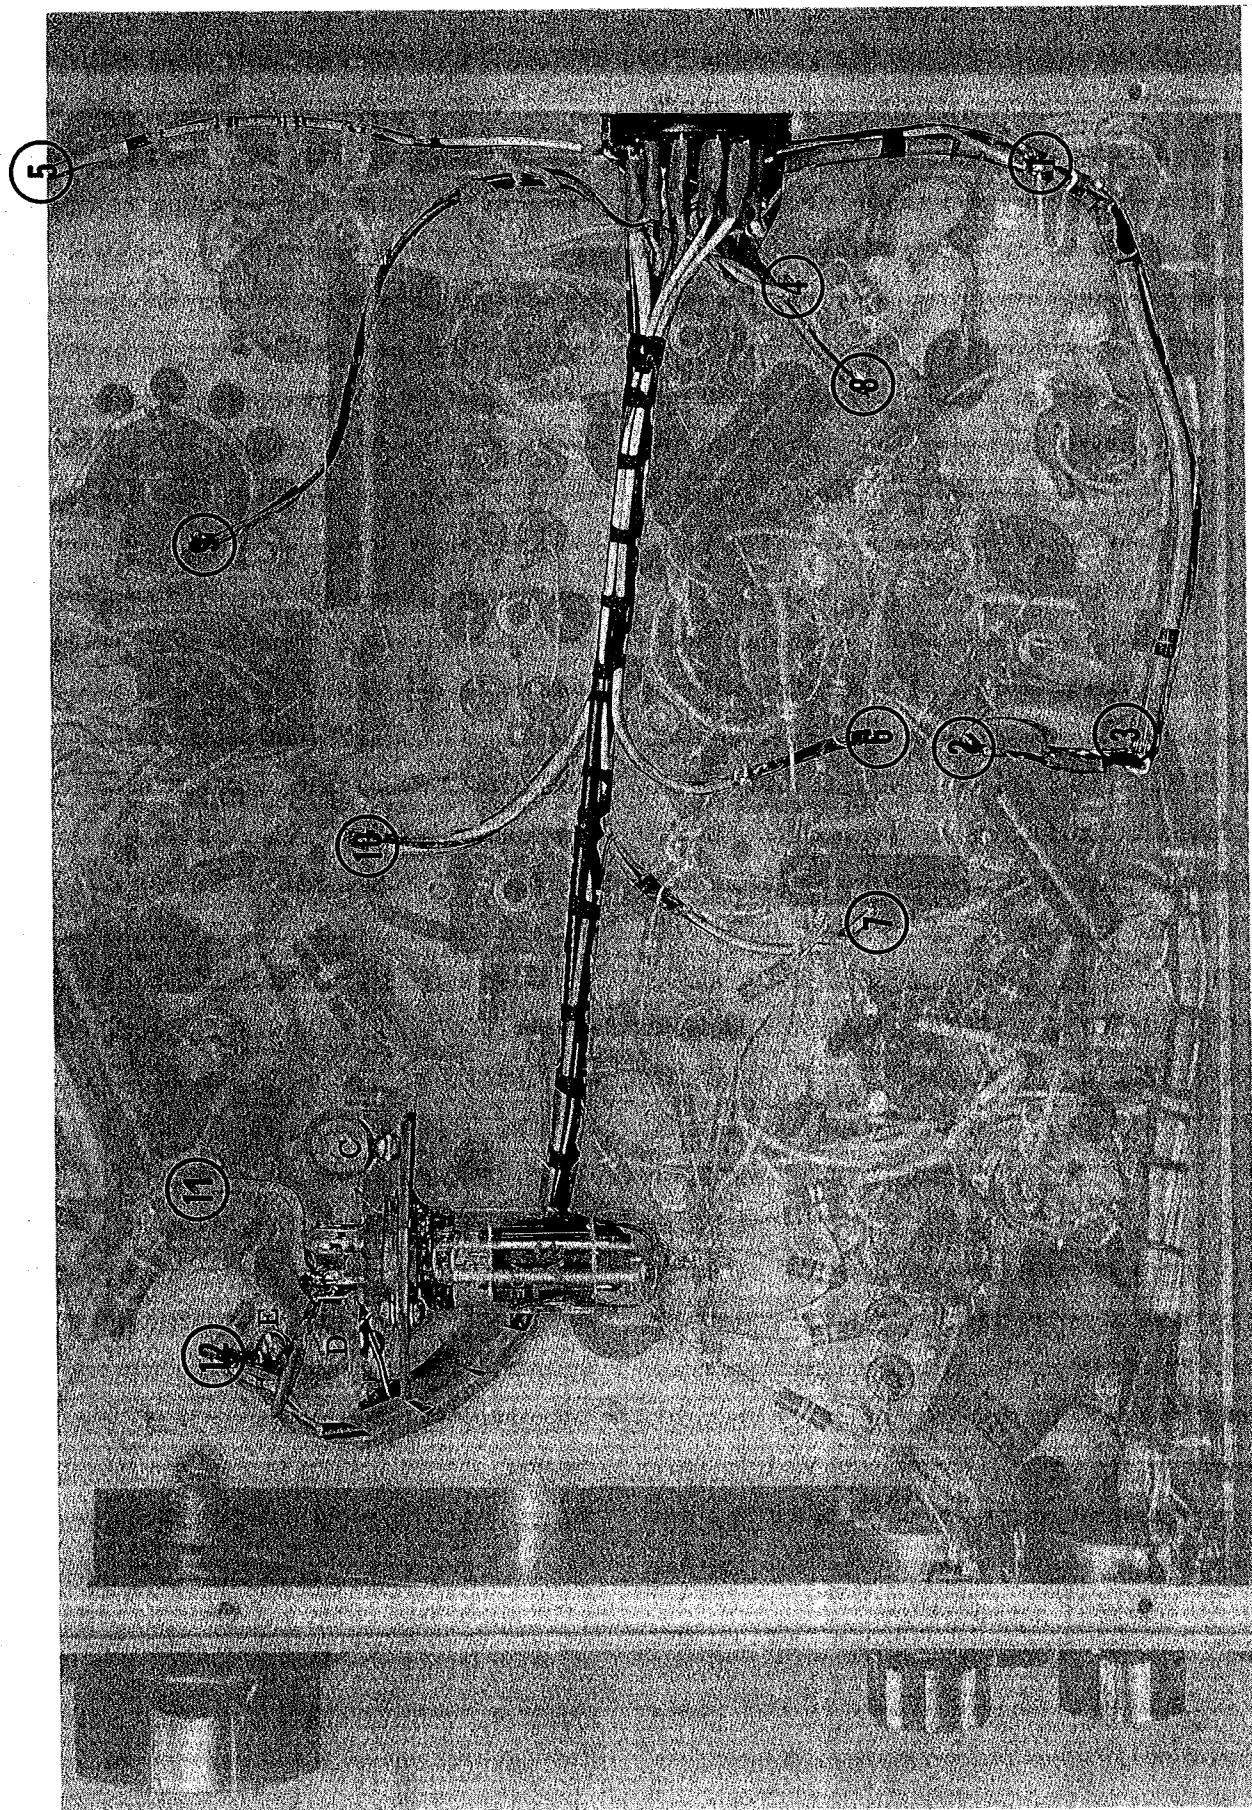

FIGURE 2 INSTALLATION OF WIRING HARNESS IN SW-240 TRANSCIEVER.
7. Loosen three screws at C, D, and E on Figure 2. Insert tube socket mount slots around C and D, and tighten screws firmly. Remove screw E and mount terminal strip under screw and tighten firmly.
8. Fit 12-pin receptacle into 1 1/8 inch hole in rear panel, mark and drill mounting bolt holes, mount receptacle in exact orientation shown in Figure 2, and bolt firmly.
Wiring of the harness to the transceiver circuitry is not complex, providing the connections are made as shown in Figure 2. For purposes of making the wiring simple, the connections to be made are coded by step on Figure 2. The corresponding steps are identified in the instructions by identical circled numbers.